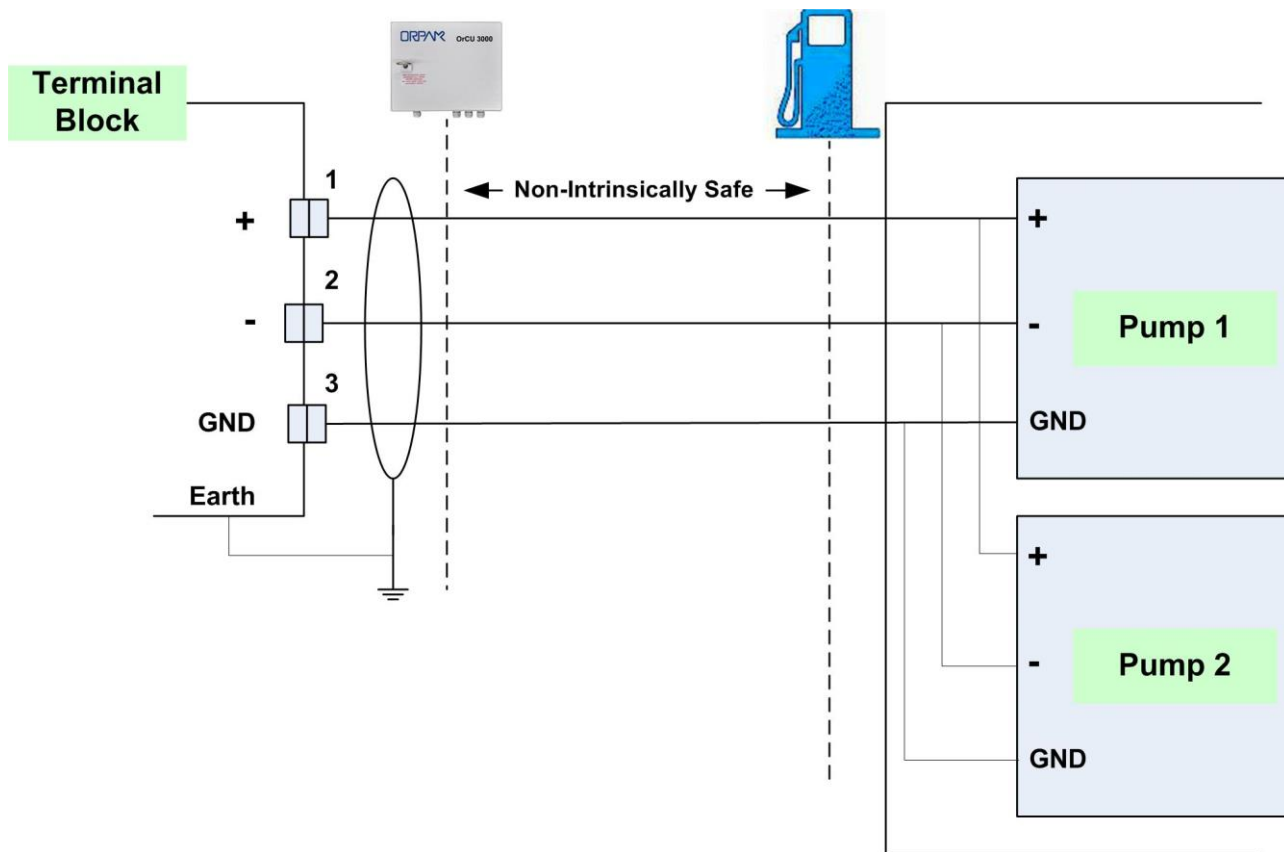

Figure 3-21 RS-485 Electronic Pump - Wiring Diagram
- Figure 3-21 shows the specific wiring connections between CFN PLUS and the RS-485 pump nozzle, and the terminals that differ from the Mechanical Pump. The figure shows the parallel connection between two RS-485 pumps and the Terminal Block.